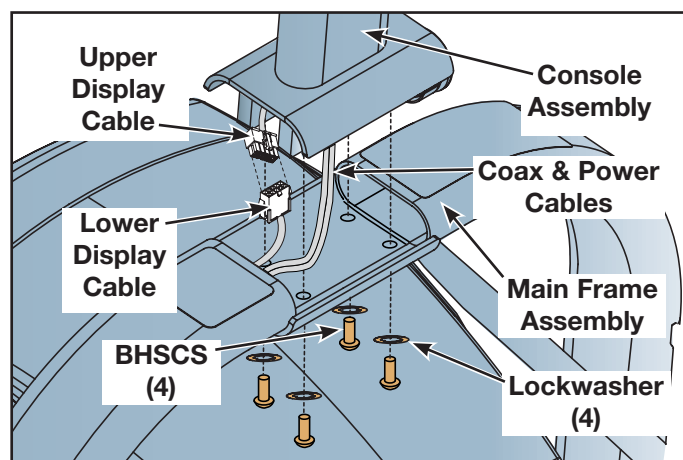

Figure 15
- B. Plug the upper display cable into the lower display cable in the main frame assembly. See Figure 15.
- D. Attach the console assembly to the main frame using the four lockwashers and four BHSCS as shown in Figure 15.